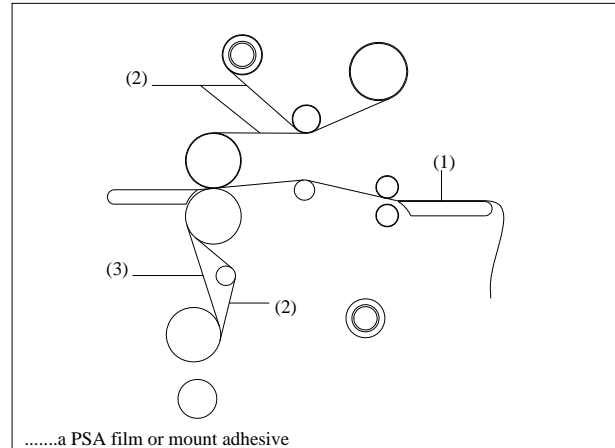

FIGURE 28
1. Using a slitter, cut (1) the output from the web (Fig. 28).
2. Cut (2) remaining top film web between the idler bar and heat roller. PSA film cut the release liner too.
3. Cut (3) the film web between the lower film supply and the idler bar (Fig. 28).